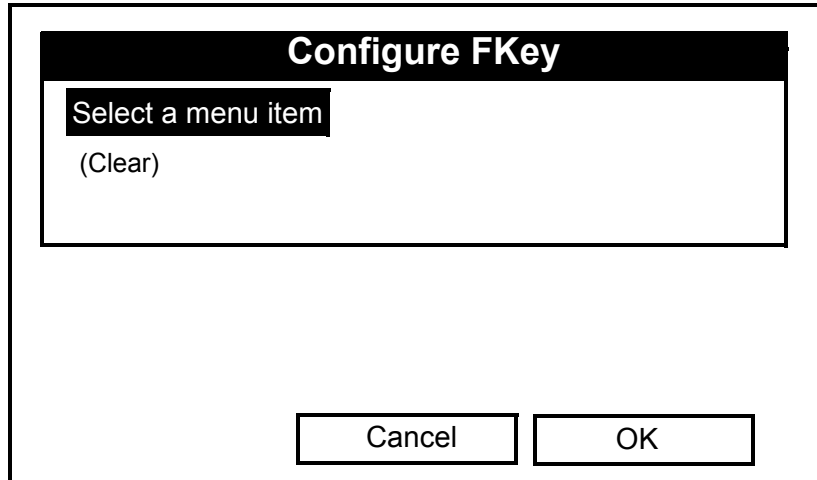

Figure 3-9: The Configure FKey Window
4. Use the [▼] or [▲] arrow keys to select the desired *FKey* (for example, *F1*) and press [ENTER]. The *Configure FKey* window (see Figure 3-9 on the next page) opens.
**Note:** *A softkey can also be cleared in the Configure FKey window (see Figure 3-9 on page 3-10) by selecting the Clear option and pressing [ENTER] and then [F3] (OK).*